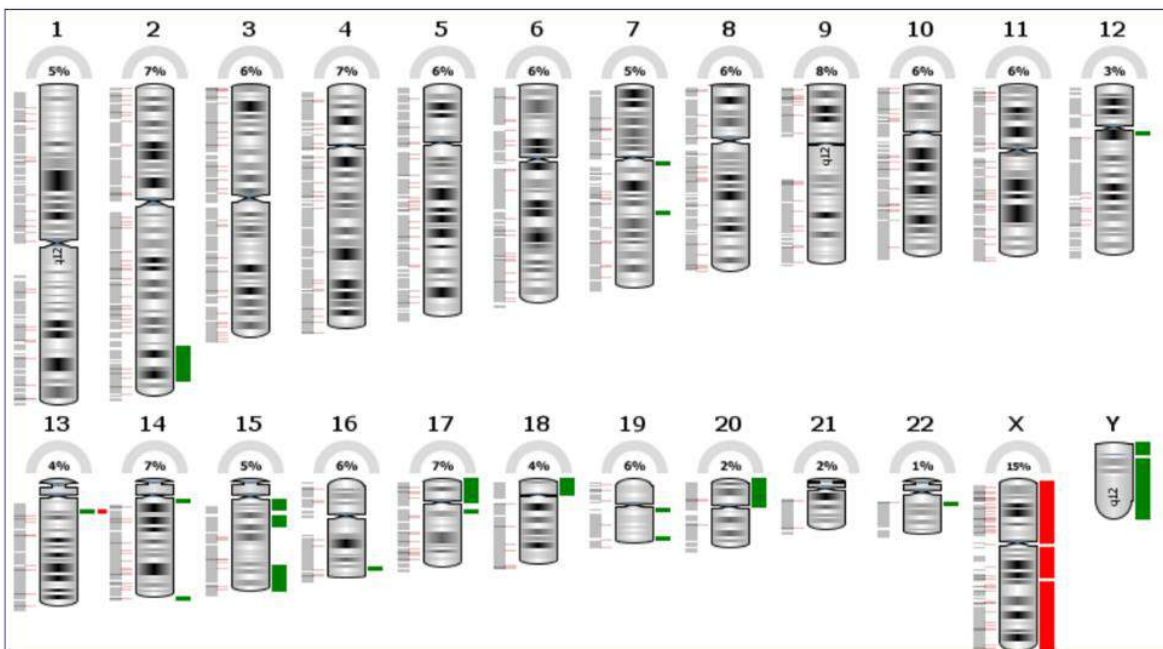

Figure 2: Ideogram of all chromosomes as displayed in the HTML and PDF reports.
- See Figure 2 for an example.